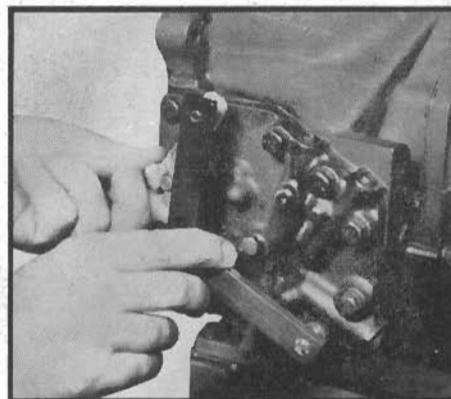

Fig. 20 Use of outer throttle valve lever gauge. 1955-56 Powerglide (6-cyl.)
5. Rotate throttle valve control outer lever assembly counterclockwise to the open throttle position (to a definite stop). Hold in this position and, with the gauge shown in Fig. 20 set at $6\frac{3}{8}$ ", measure distance between hole in side cover and hole in throttle lever. If the gauge pins will enter holes, adjustment of lever "E" is correct. If adjustment is not correct, loosen lever-to-clamp attaching bolt and adjust outer lever as necessary.
the full detent position. Hold in this position and, with gauge shown in Fig. 20 set at 7.09", measure distance between hole in side cover and hole in lever B. If gauge pins enter holes, adjustment of lever B is correct. If not, loosen clamp A and adjust lever as necessary.